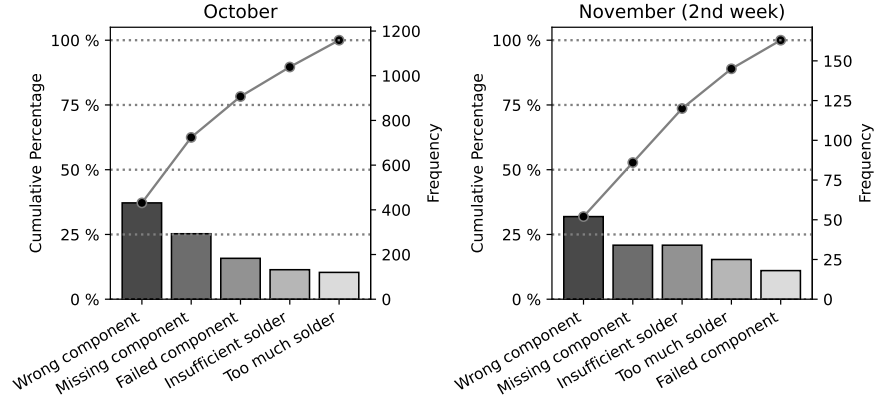

Fig. 2.5: Pareto chart nonconformities in October and the second week of November
**Solution 2.12 (a)** Fig. 2.5 is created using the following code